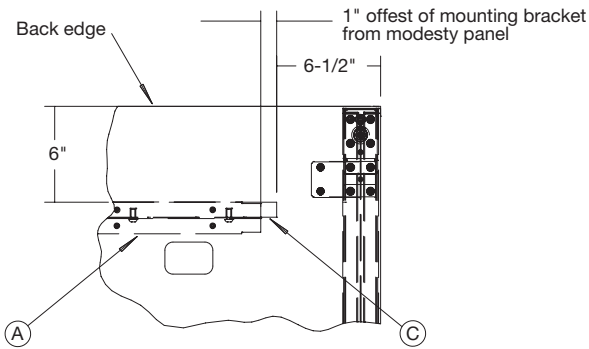

Fig. 1A
1. Mark the location where the modesty bracket (A) is to be mounted and fasten it to the underside of the mounting surface using fastener (B). (Fig. 1A & 1B)